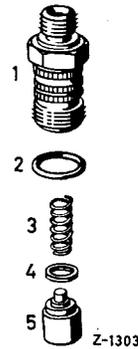

Fig. 00-6/14
6. Unscrew the fuel tank (1) and the overflow tube (4) (see Figure 00-6/10).
- Unscrew pipe connection nipple (4), install pressure valve (2) and tension spring (3) (see Figure 00-6/9). Screw in pipe connection nipple again and **tighten with a torque of 4.5 + 0.5 mkg (32.5 + 3.6 ft. lb.)**. To guarantee perfect seat of sealing ring, **loosen pipe connection again and tighten with 4.5 + 0.5 mkg for the second time, loosen for the third time and tighten again with 4.5 + 0.5 mkg**. Attach clamping jaw lock between pipe connections; in doing so, tighten attaching bolts with a torque of 0.9 mkg (6.5 ft. lb.) (too much torque on the low or high pressure elements may cause leaks or distortions of the injection pump casing).
R 1/2 and R 1/24, respectively. Check rubber seal ring (2) for damage (see Figure 00-6/14).
Additionally, it should be mentioned that the pressure valve holder (5) with pressure valve, seal ring (4) and pipe connections (1) of the reinforced injection pumps PES 4 M ... R 3, RS 3, R 4 and RS 14 are not interchangeable with those of injection pumps PES 4 M R 1, R 1/2 and R 1/24 (see Figure 00-6/14).